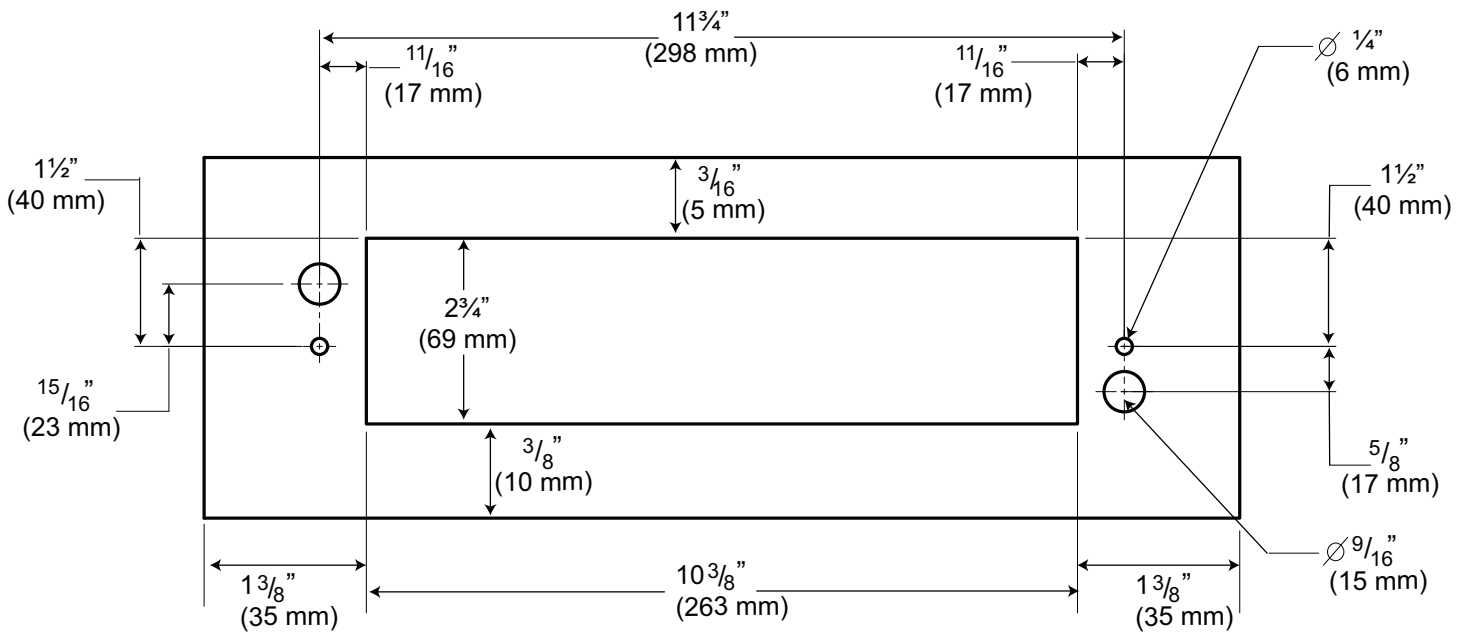

Figure 7: Wall Cutout (view is shown facing wall)
3. Prepare wall or similar surface for installation as shown below in *Figure 7*.